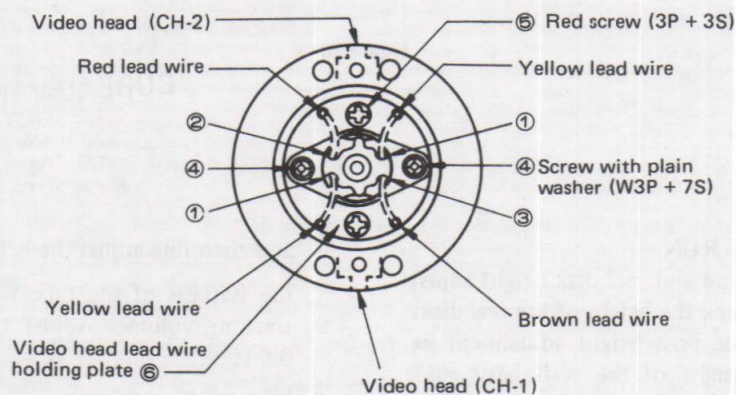

Figure 37
- ① Properly reassemble the replaced upper drum unit and correctly connect the lead wires in position as shown in Fig. 37 below.